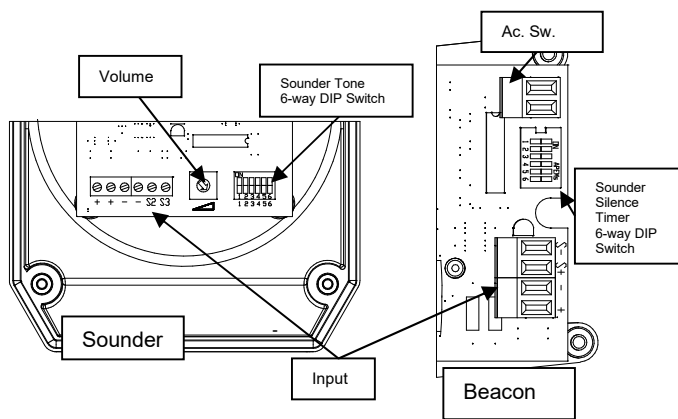

Fig 2 Location of field terminals and controls.
- Remove the PVC grommet and fit a M20 x 1.5 cable gland or conduit entry into the hole in the enclosure and connect the field beacon wiring terminals as shown in sections 5 & 6 and fig 2 of this manual. The power supply terminals + and - are duplicated so that combined sounder beacons may be connected in parallel, or an end of line monitoring resistor may be fitted.
- Select the required sounder output tone by positioning the 6-way DIP switch as shown in Table 2.0 and Fig 2.
- If required, set sounder silence timer delay using the 6-way DIP switch as shown in Table 3.0 and Fig 2.
The output level of the IS-DL105 combined sounder beacon can be set by adjusting the volume control potentiometer (see Fig 2).
Tone Selection – To select the required first stage tone set the tone switches 1 to 6 (see Fig 2) to the tone setting shown in the table below. The table also shows which 2nd and 3rd stage tones are available for use with the selected first stage tone if more than one tone output stage is required.